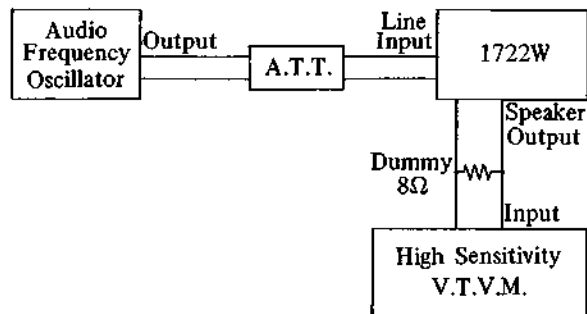

Fig. 3
- 1) Connect the various instruments as shown in Fig. 3 and supply a 1,000 Hz sine wave signal to the Line Input of the recorder from an Audio Frequency Oscillator through an Attenuator. Set recorder to "REC" mode and turn recording level control volume to obtain "0" VU meter reading.